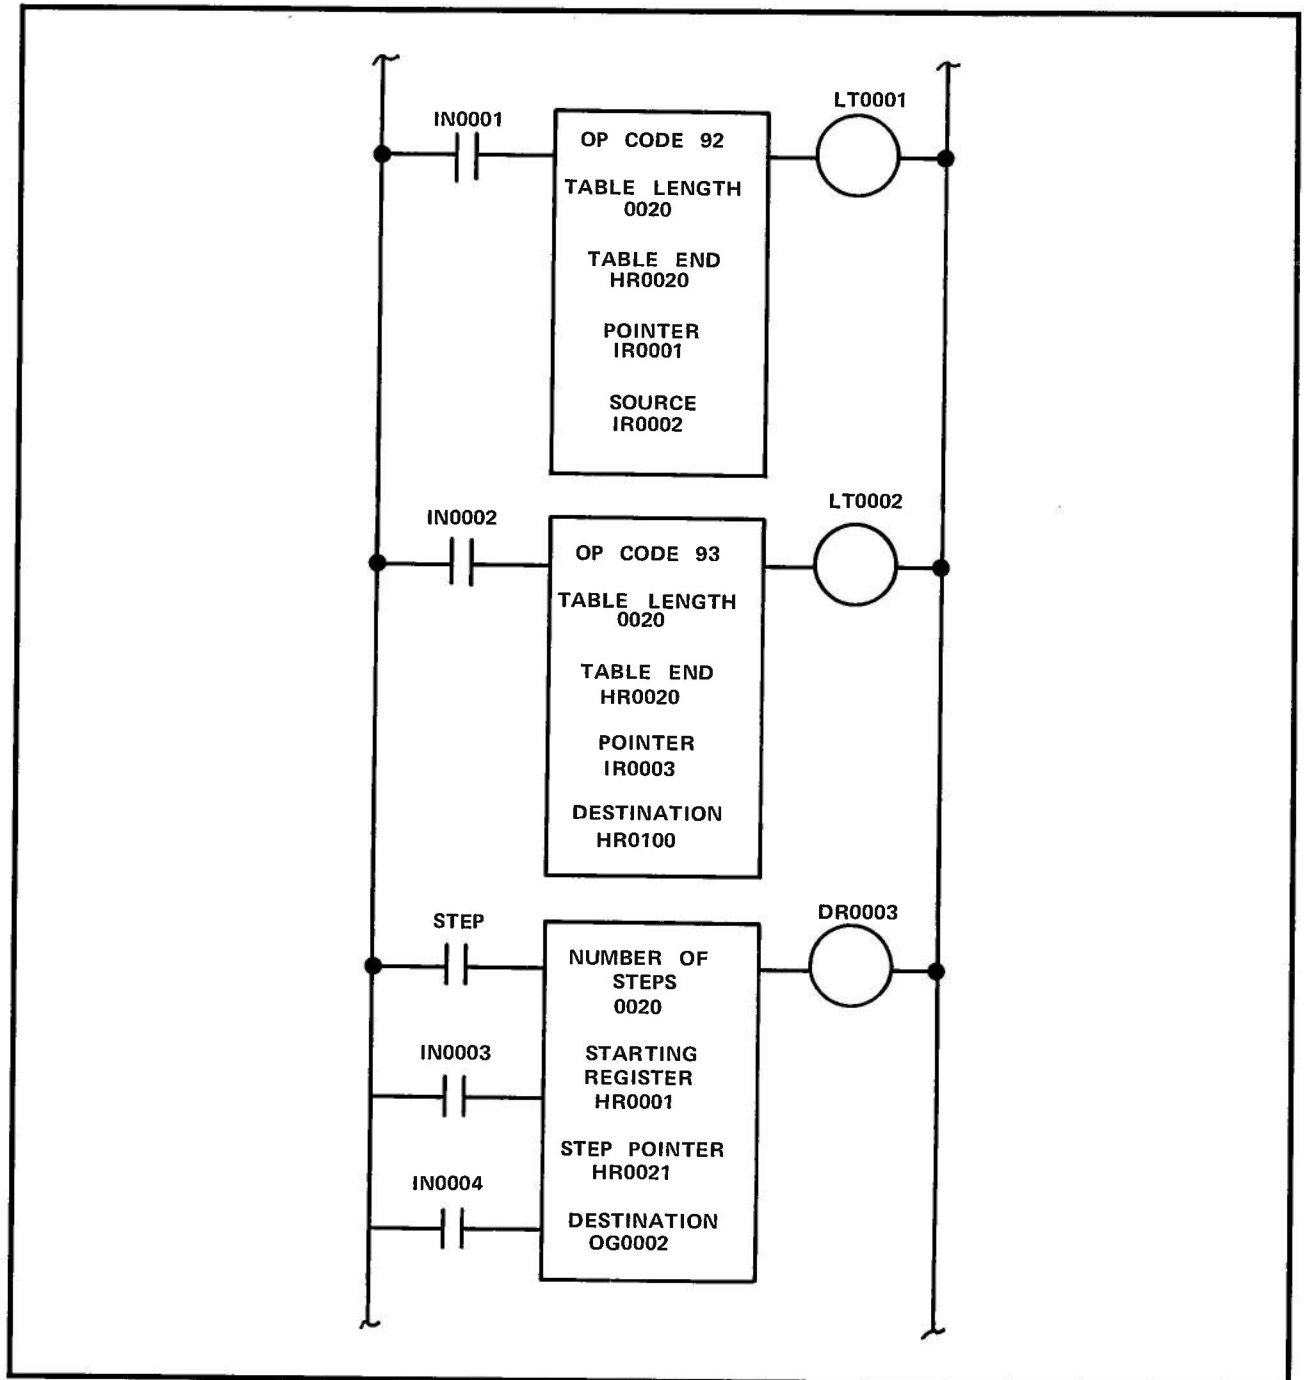

Figure 4. OT/CT Application
The OT and CT functions are used in any situation where tabular data is subject to change. The Drum Controller (DR) and Table-to-Register Move (TR) functions are functions to which the OT and CT functions can be applied, as shown in Figure 4. With the OT function, steps can be added to the DR function. With the CT function, steps can be deleted from the DR function. Together, a step may be removed, and a new step may be inserted at the old location. The table must be the same in all three functions.